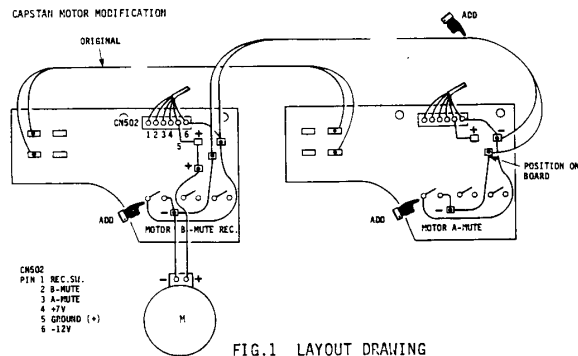

FIG.1 LAYOUT DRAWING
1. Mount one (1) motor leaf switch in each of the motor A and motor B switch boards in the locations indicated in the layout drawing (see Figure 1).
3. Connect the twin lead wire to the points indicated in the layout drawing (see Figure 1).